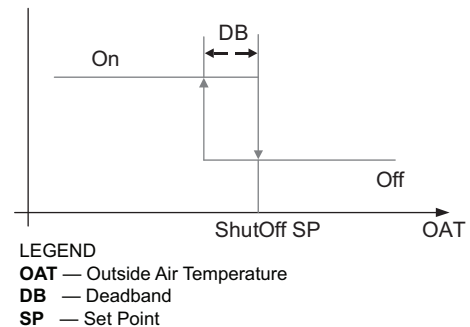

Fig. 70 — Hysteresis Settings
Hysteresis setting (DB) defaults to 2°F (–17°C). See Fig. 70.